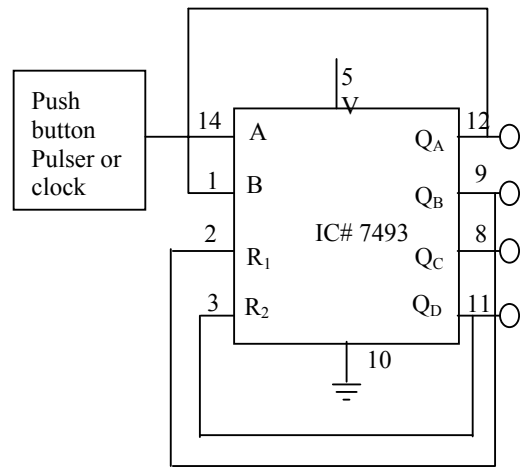

Fig.4 BCD counter
2. Connect the IC type 7493 as shown in Fig.4 Pin 14 is connected to PB1.